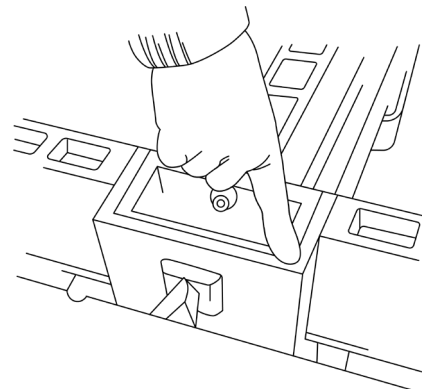

Figure 5
- Ensure that the beam end sections are flush with the top of the wallboxes and metal to metal contact is made. (Figure 5)